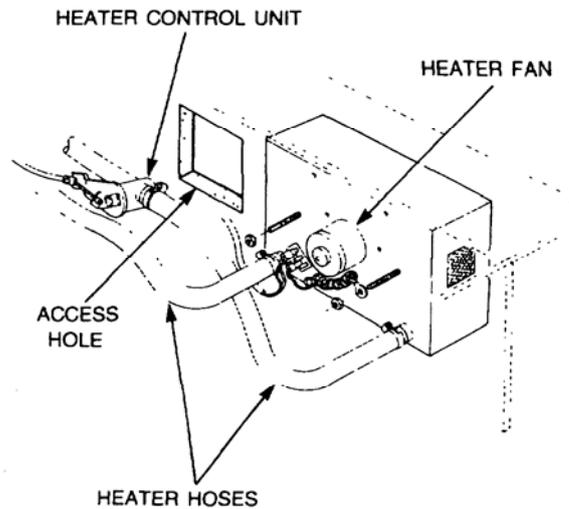

Figure 24 Heater Unit Removal
- Slacken the two hose clamps securing the hoses to the heater unit (refer Figure 24).
- b. Remove the four screws securing the access panel (refer Figure 24).